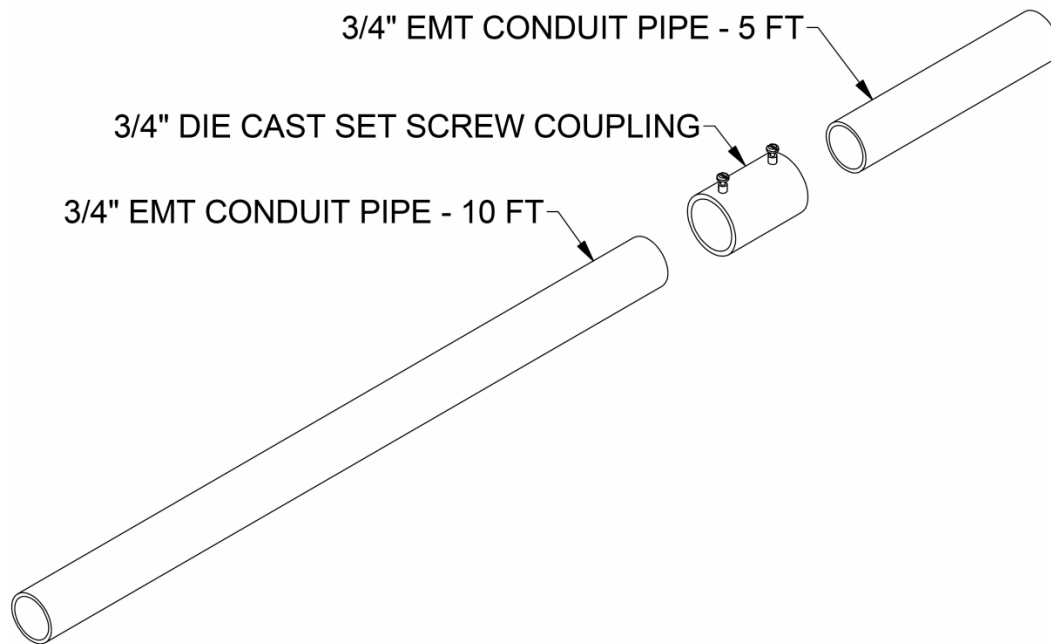

Figure 9: Assemble Pipe
1. Attach the 5 FT on to the 10 FT conduit pipe, as shown in Figure 9.